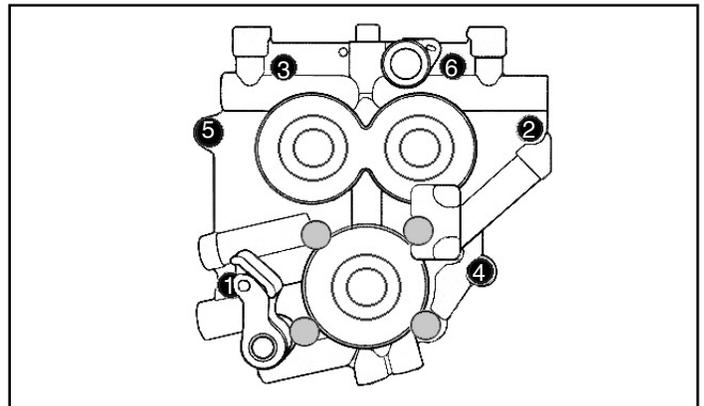

Figure 2
- Gradually loosen and remove six support plate bolts according to sequence shown in Figure 2.
install screws, and gradually tighten to 95 in-lbs. in sequence illustrated in Figure 2 on page 4.